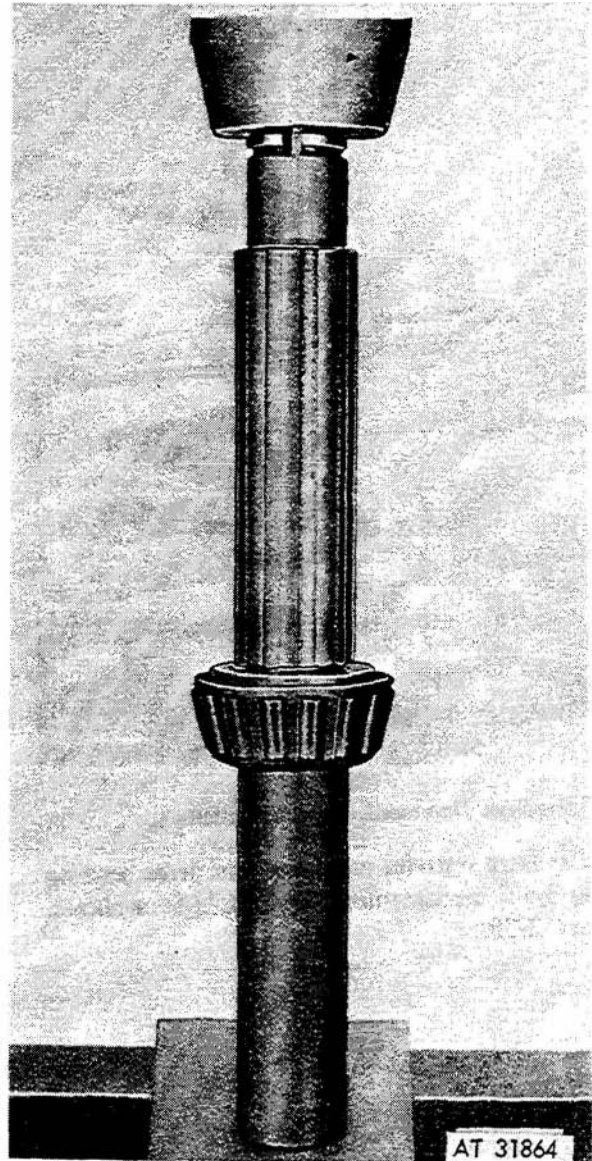

Figure 3-68. **Pressing** bearing on intermediate shaft.
(8) Press bearing (35) on intermediate **shaft** (46) (fig 3-68).